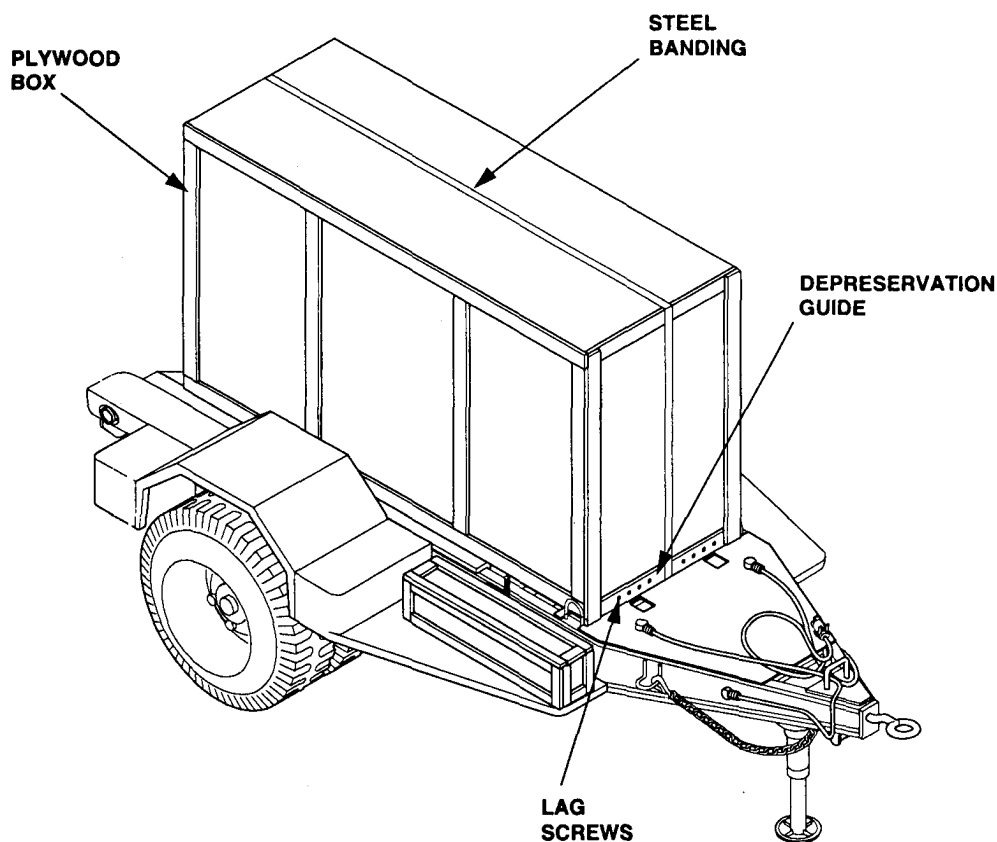
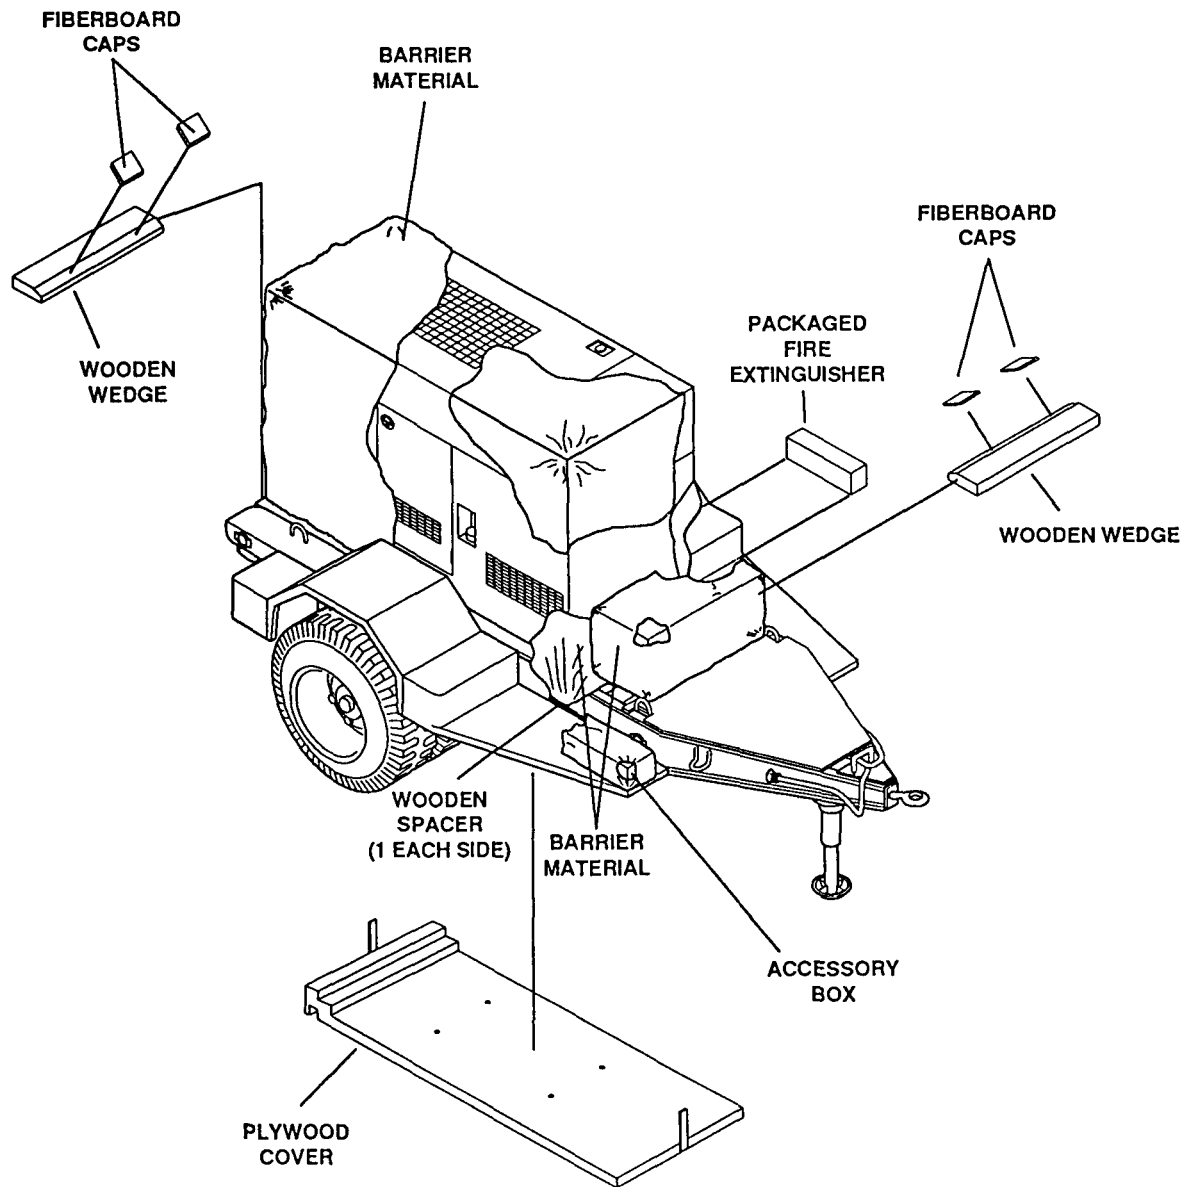

Figure 4-1. Power Unit Packed for Shipment.
Figure 4-2. Unpacking Power Unit.
**4-4.1 Unpacking Power Unit.** (Refer to figure 4-1 and figure 4-2.) The power unit is boxed prior to shipment. The PU-800, PU801, PU-801A, and PU-802 are identical with the exception of the electrical output frequency of the generator sets. Two PU-800 Power Units are modified to make up the AN/MJQ-39 power plant. Therefore, the unpacking procedures and figures 4-1 and 4-2 are typical for each configuration. Each generator set is packed in place on its respective trailer. Before beginning the unpacking procedure, locate and remove Depreservation Guide.
- d. Refer to figure 4-2 and remove wooden wedges, spacers, and fiberboard caps from around generator set skid bases.